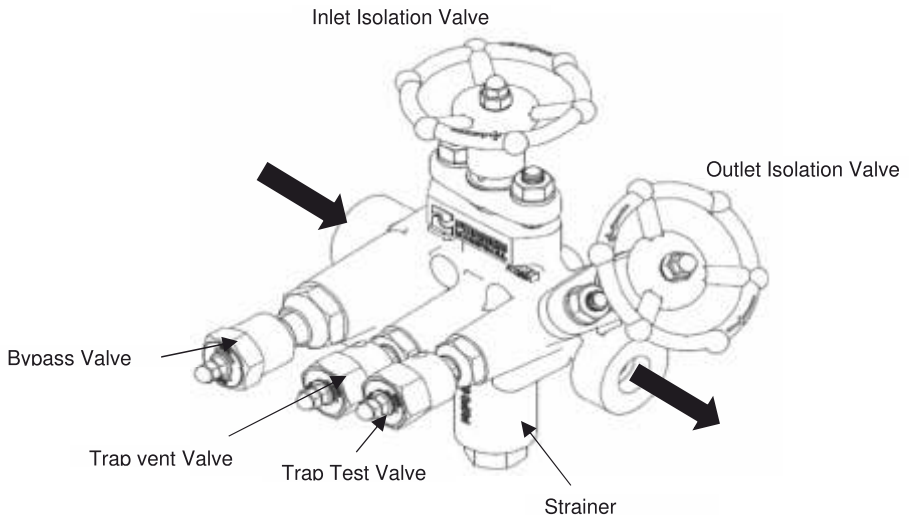

Figure 3: Forbes Marshall Pipeline connector with (DV1, DV2 and DV3 with integral strainer)
- The FMPC 57 is a compact module consists of, upstream isolation valve and downstream isolation valve to protect the steam trap, a trap test valve to test the steam trap functioning, a bypass valve before the steam trap to bypass the flow during maintenance of the steam trap and a trap vent valve to release pressure in the steam trap safely at the time of maintenance as shown in figure 3.
6.1. Flushing of lines: [Refer figure 3]
6.2 Commissioning: [Refer figure 3]